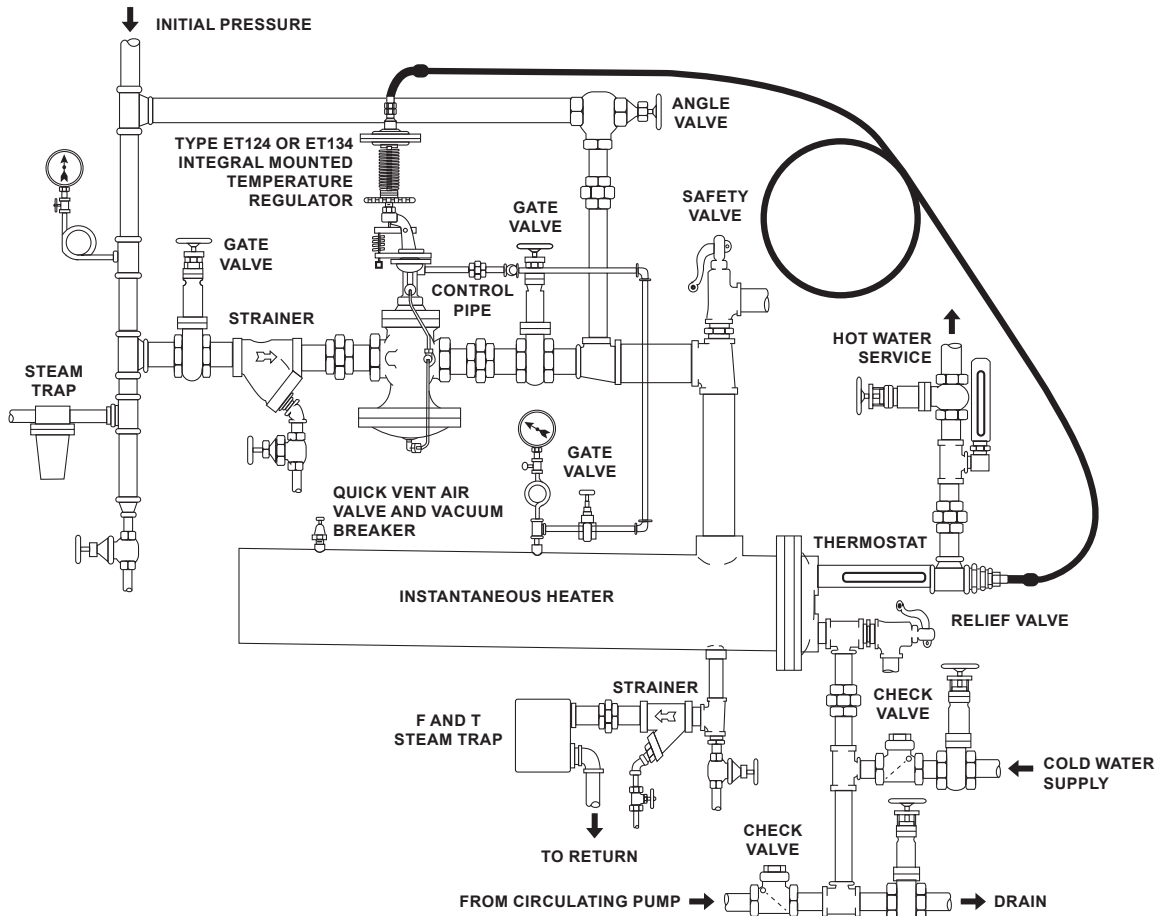

Figure 2. Recommended Installation of a Type ET124 or ET134 Integral Pilot Temperature Regulator on an Instantaneous Heater
When steam is turned on, it flows to the pilot up through the top flange. See Figure 2. At the No. 8B tee between the valve and the pilot the flow divides, one branch being connected to bleedport No. 211, the other to restriction elbow No. 211, the other to restriction elbow No. 5A and the underside of the main valve diaphragm. Bleedport No. 211 restricts the flow, builds pressure under the diaphragm and opens the main valve. Restriction No. 5A steadies the operation
2. On instantaneous heaters with steam in shell, tap the control pipe into the shell. Otherwise, enter the delivery steam pipe at point of entrance to the heater. (See Figure 2)